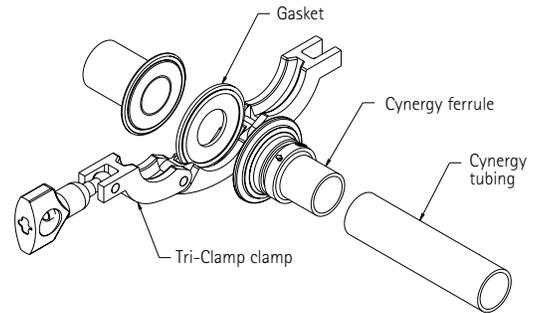

Figure 8
3. Place the appropriate gasket between the two sanitary flanges (see Figure 8).